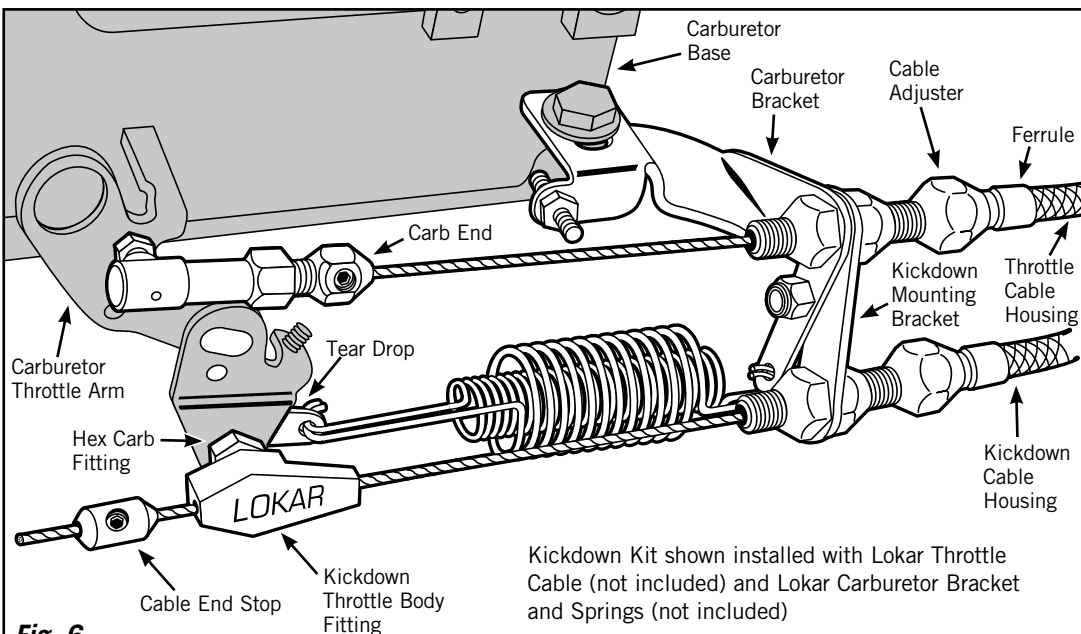

Fig. 6
Step 6: The tear drop will be attached to the carburetor throttle arm by the hex carb fitting. Separate the hex carb fitting from the kickdown throttle body fitting. Install the hex carb fitting and the tear drop onto the carburetor throttle arm as shown in Fig. 6. Hook the springs to the tear drop and tighten the hex carb fitting.
Double check to be sure that all carburetor, throttle and kickdown linkage operates freely without binding, then test drive. Once the kickdown cable is correctly adjusted and operating properly you can cut off the excess inner wire, leaving about 1/2" extending beyond the cable end stop to allow for future adjustment if needed. Final installation should look like Fig. 6 and Fig. 7.